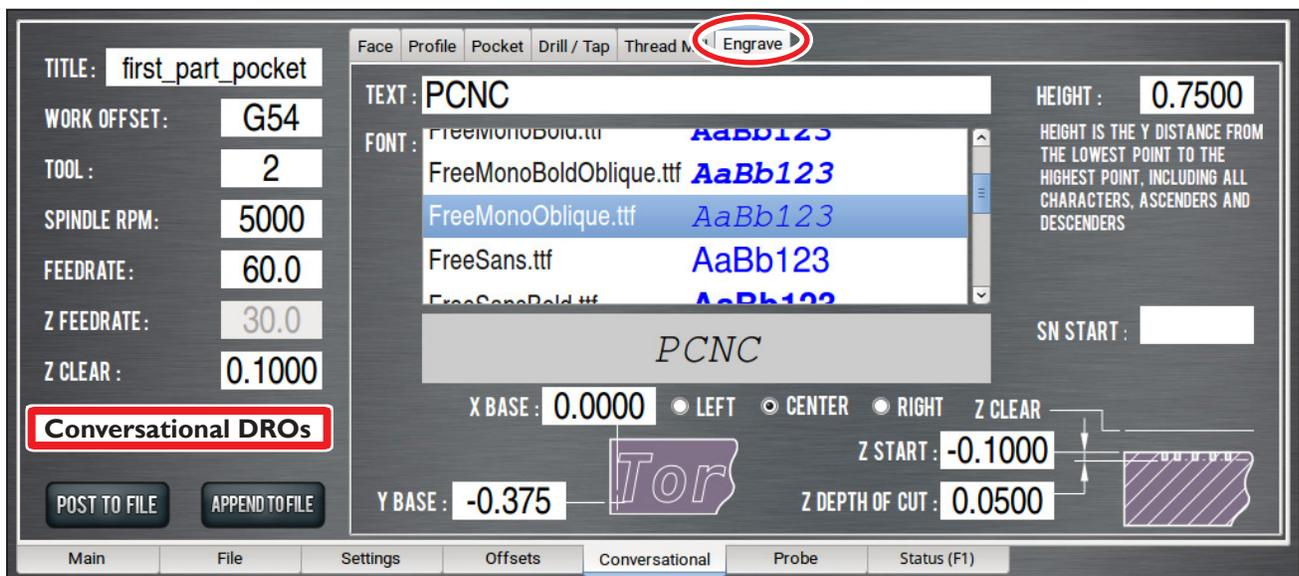

Figure 5.12
- Units are expressed according to the current G20/21 setting. If you are in G21 (metric), the feed rates will be in mm/min and the coordinates in mm. For the purposes of this tutorial, use imperial units (G20). You can check the current G20/21 setting by inspecting the string of active G-codes next to the word *Status* at the bottom middle of the screen (see **Figure 5.12**).
Go back to the *Conversational* screen and click on the *Engrave* tab (see **Figure 5.10**) and the Engrave screen opens (see **Figure 5.12**). Enter the values shown in **Figure 5.12**, *Conversational DROs*. Make sure to enter *PCNC* in the text field.
1. Select the *FreeMonoOblique.ttf* font (see **Figure 5.12**) and change the *Tool* DRO to 2 for the engraving operation.
2. Press the *Append to File* button (see **Figure 5.12**). A file chooser dialog opens that allows you to select the file to which you want to add the engraving G-code.